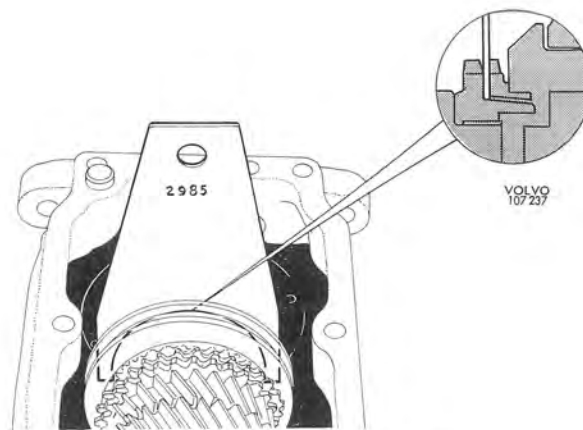
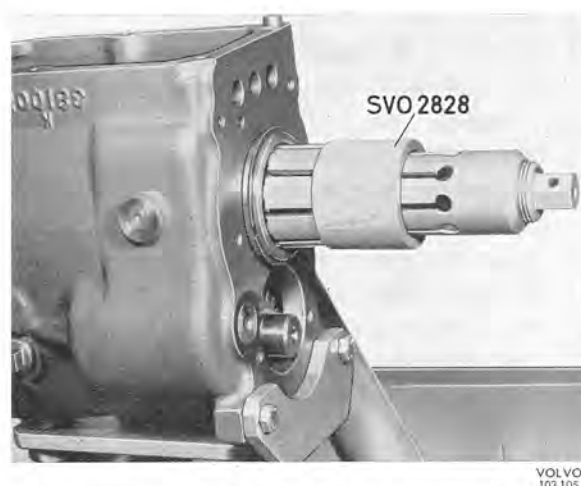
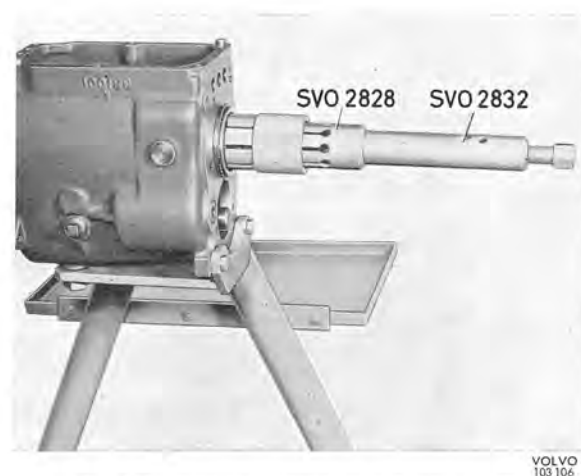

Fig. 4-17. Counterhold for mainshaft
Fig. 4-18. Removing mainshaft rear bearing, M 400
Fig. 4-19. Removing mainshaft rear bearing, M 410
5. Place counterhold 2985 between the input shaft and the front synchronizing, see Fig. 4-17. Pull off the mainshaft rear bearing with puller 2828, see Fig. 4-18. For M 410, remove the bolt in 2828 and replace with tool 2832. Thereafter pull off the rear bearing in the same way as for M 400, see Fig. 4-19.